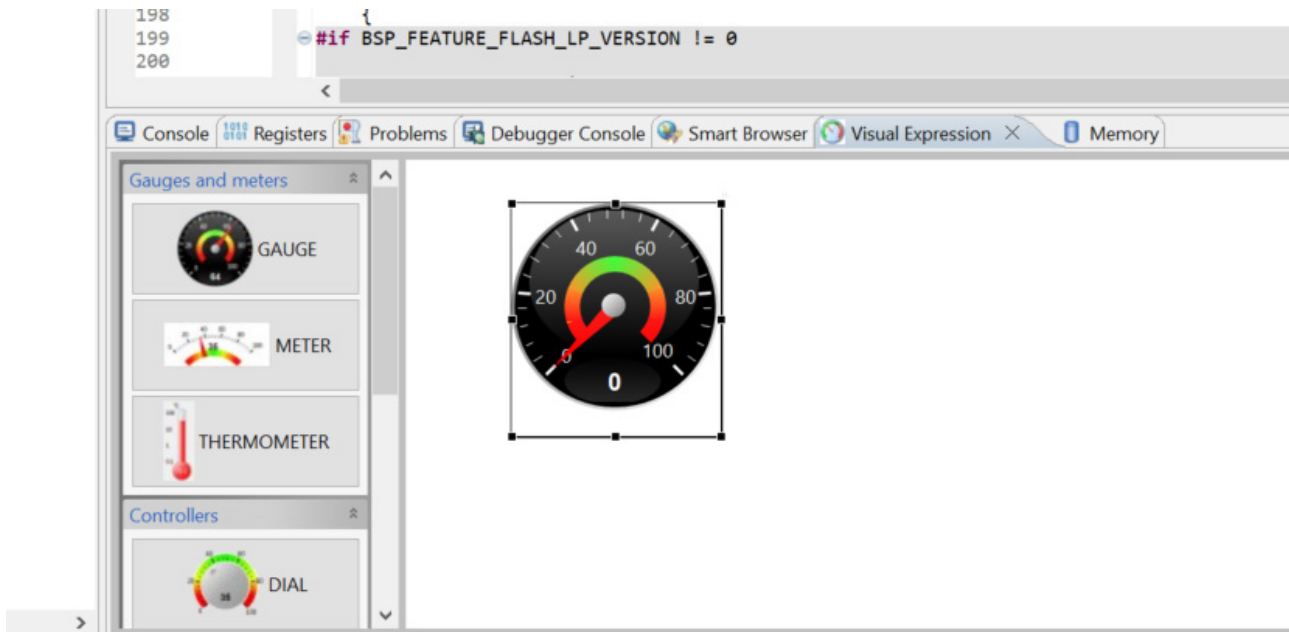

Figure 21. Gauge Setup
6. Add gauges to see sensor data from the RRH62000 by dragging the **GAUGE** icon into the Visual Expression window (see Figure 21).